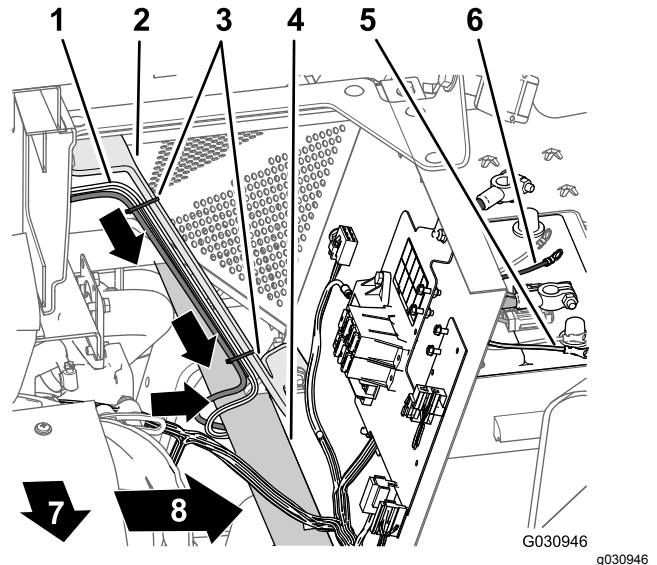

Figure 116
3. Route the 108 cm (42-1/2 inches) branch of the wire harness down along the left support for the engine shroud and under the left frame tube (Figure 116).
- Route the 50 A fuse and the positive and negative ring terminals of the 108 cm (42-1/2 inches) branch of the wire harness to the top of the battery (Figure 116).